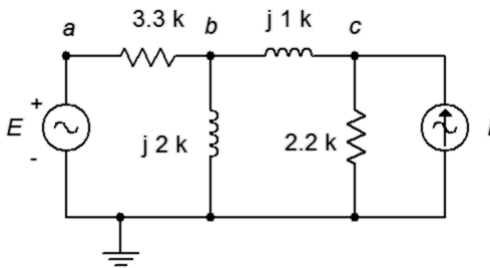

Figure 6.23
45. Given the circuit in Figure 6.23, use nodal analysis to determine v_c . $E = 40\angle 180^\circ$, $I = 20\text{E}-3\angle 0^\circ$.
46. Use nodal analysis to find the current through the $2.2\text{ k}\Omega$ resistor in Figure 6.23. $E = 240\angle 0^\circ$,